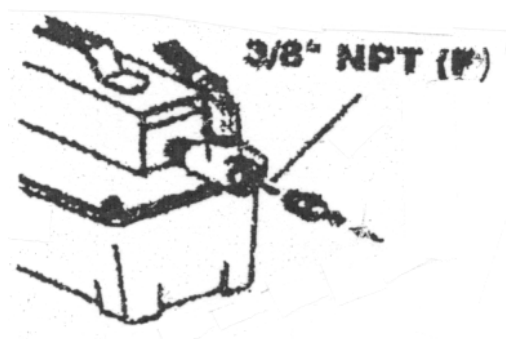

Figure 3-1.
1. Because of the many different types of air fittings, the model B200-A is shipped with the 3/8" NPT air inlet plugged. This allows adapting the BucJac to the on-site style of air connection fittings once the plug is removed. See Figure 3-1. When installing the air inlet fitting, use a pipe thread sealant such as Teflon tape. The air supply **MUST** have a filter to prevent dirt contamination of the pump assembly.